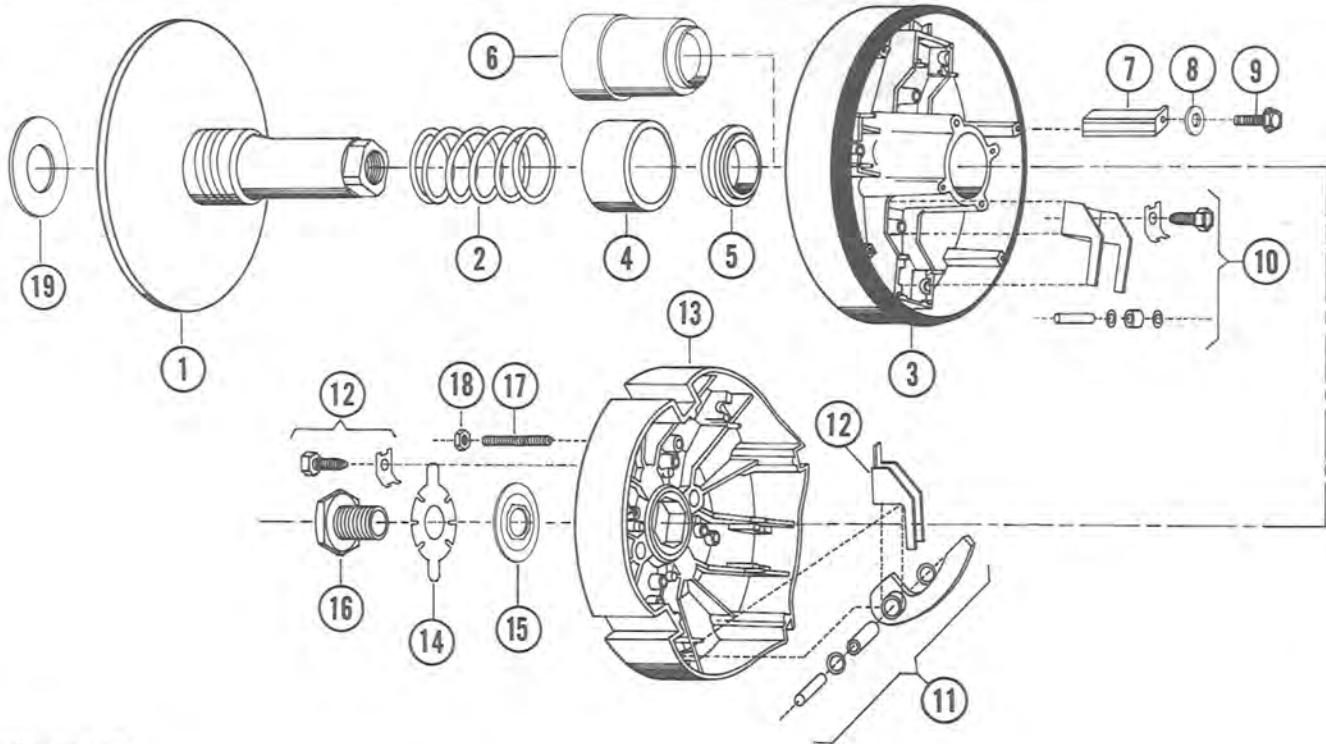

Figure 1.
1. First and second generation drives and most third generation drives have 9/16-18 threads inside special screw (Item 16, Fig. 1). In this case insert dismount tool (Part No. 601515) into special screw until contact with crankshaft is made. Continue driving dismount tool utilizing impact wrench until the tapered bore of the hub has been separated from taper of crankshaft (Fig. 2).
2. Some third generation drive pulleys have special screws that are not threaded internally. In this case flatten lockplate (Item 14, Fig. 1) away from head of the special screw (Item 16, Fig. 1). Remove special screw with the aid of an impact wrench and a 1-3/8 inch socket (all threads in this clutch are standard right hand). Insert dismount tool (Part No. 601908) into 7/8-14 threads of hub bore and run in by hand until contact with crankshaft is made. Continue driving dismount tool, utilizing impact wrench, until the tapered bore of the hub has been separated from taper of crankshaft. Clutch assembly is now free to be removed from engine. Note: If an impact wrench is not readily available, the clutch may be held with a chain or strap wrench while removing and or installing special screw and dismount tool with standard wrenches or sockets.
1. Those units that have internally threaded special screws, flatten lockplate (Item 14 Fig. 1) away from special screw (Item 16 Fig. 1). Utilizing an impact wrench, back out special screw (very early units were 1-1/2 inch hex, all others 1-3/8 inch hex) approximately 1/4 inch. Reinsert 9/16-18 dismount tool at least one inch into special screw. With clutch supported in one hand under movable face, strike top of dismount tool sharply with rawhide, brass or lead hammer (Fig. 10) until housing and movable face recoil from tapered square of fixed face and hub. Remove dismount tool, special screw, lockplate, housing, movable face and spring from fixed face and hub.
Movable Face - With belt surface of movable face down, remove the (4) slide bearing screws or grind off aluminum rivets as used in very early first generation drives (Fig. 3). Lift out slide bearings as in Fig.13, using small allen wrench as a lever. Bend lockplates away from heads of 1/4-20 screws that secure roller clamps and remove the four screws, lockplates, clamps, rollers and thrust washers. All 800 series drives produced prior to December, 1972 had a two piece center bearing (Items 4 & 5, Fig. 1). To remove the two piece bearing, place movable face on a wooden table, belt face up. Drive a small to medium flat blade screw driver between outer nylon bearing and casting (Fig.14). Continue to drive with hammer or similar object until bearing splits, then remove. Turn movable face over and tap down on remaining bearing until it falls free. One piece (cup) bearing (Item 6, Fig. 1) can usually be removed by pushing on small end of bearing with thumbs, if tight, tap with wooden dowel.
Center Bearing - If a .015 inch diameter wire can be inserted between center bearing and hub of fixed face, center bearing should be replaced. Two piece bearings (Items 4 & 5, Fig. 1) should always be replaced with the fully interchangeable one piece bearing (Item 6, Fig. 1).